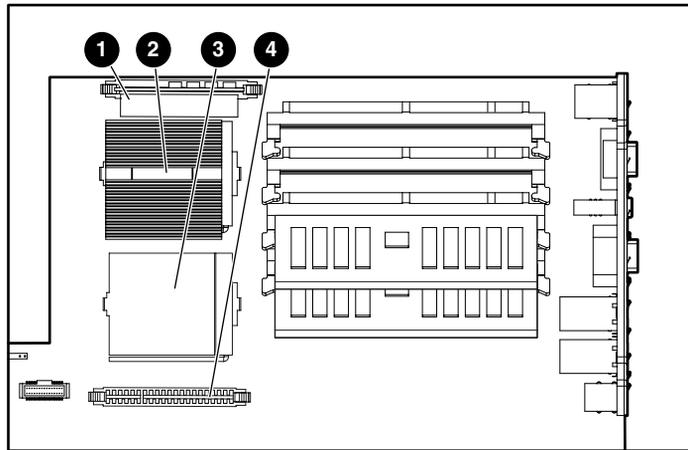

Figure 3-10. Locating processors and sockets
To remove or install processors refer to the label attached to the inside of the access panel, to the processor option kit, or use the following procedures. Figure 3-10 and Table 3-2 shows the processor socket locations.
- a. Use Figure 3-10 and Table 3-2 to identify the correct PPM socket.